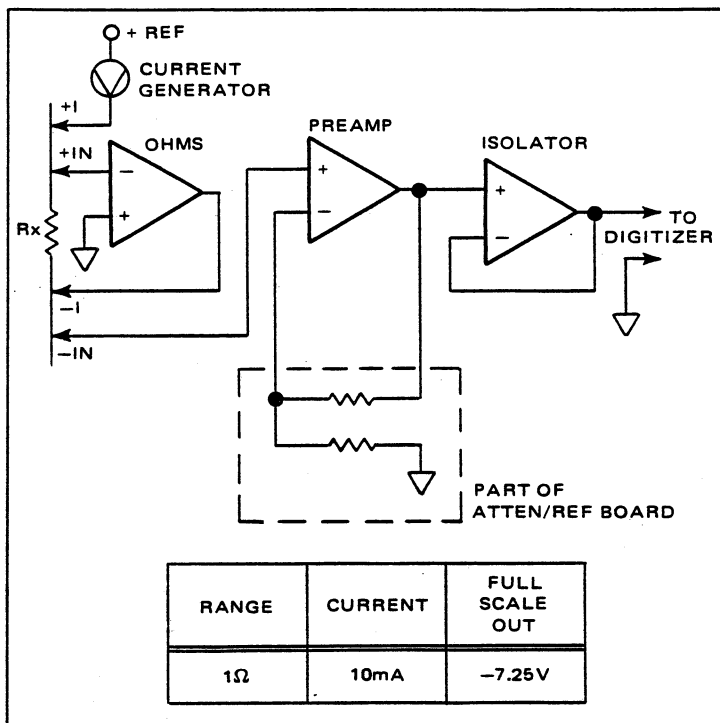

Figure 5.11 -  $1\Omega$  Range
5.3.4.5.5  $1\Omega$  Range (Option 41). As shown in Figure 5.11, the output of the Ohms amplifier is applied to the positive input of the Preamplifier (Option 41). The Preamplifier provides a gain of 725 and the output is applied to the positive input of the Isolator. The Isolator has a closed loop gain of 1.0 and serves as a buffer between the Preamplifier and the Digitizer. The full scale output of the Preamplifier and Isolator is  $-7.25$  volts.